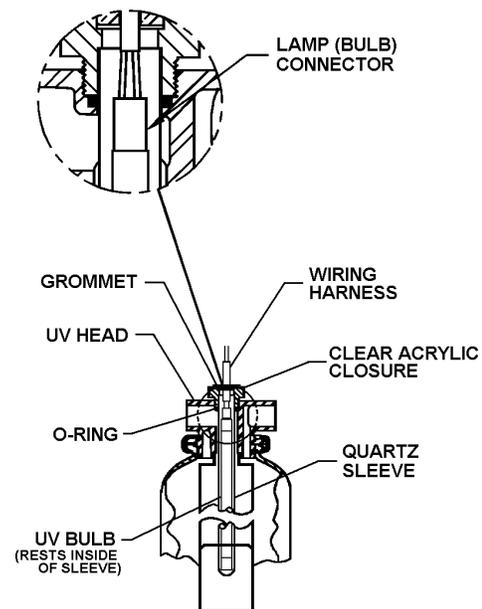

Figure 5.
The BIOLITE System is equipped with an Elapsed Time of Operation Monitor, which provides its owner with visual and audible notification that the UV lamp should be changed. Over time the intensity of the UV lamp will begin to fade, therefore, the lamp should be replaced every twelve (12) months, even if the lamp is still illuminated. This procedure should be performed even if the lamp is still illuminated. A log for noting the replacement dates has been provided inside the control box cover. **IMPORTANT:** Disconnect power to the system whenever servicing the equipment. During normal operation the Indicator Lamp will blink GREEN (See Figure 5). This indicates the installed UV lamp has been in operation less than twelve months. It is important to note that the blinking green Indicator Lamp does not indicate that the UV lamp is illuminated, but that the UV lamp has been in operation less than twelve months. It is critical that the Reset Switch not be pressed unless the used UV lamp has been replaced with a new lamp. When twelve months have elapsed the Indicator Lamp will switch to continuous RED illumination and the audible alarm will sound intermittently. When this occurs, the UV lamp has been in operation twelve months and should be replaced.